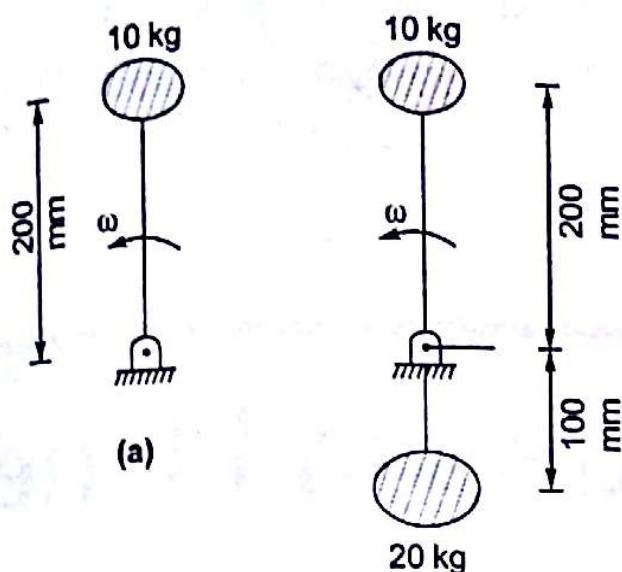

Fig. 16.5
16.7 A rigid body shown in the fig. 16.5(a) has a mass of 10 kg. It rotates with a uniform angular velocity ' ω '. A balancing mass of 20 kg is attached as shown in fig. 16.5(b). The percentage increase in mass moment of inertia as a result of this addition is